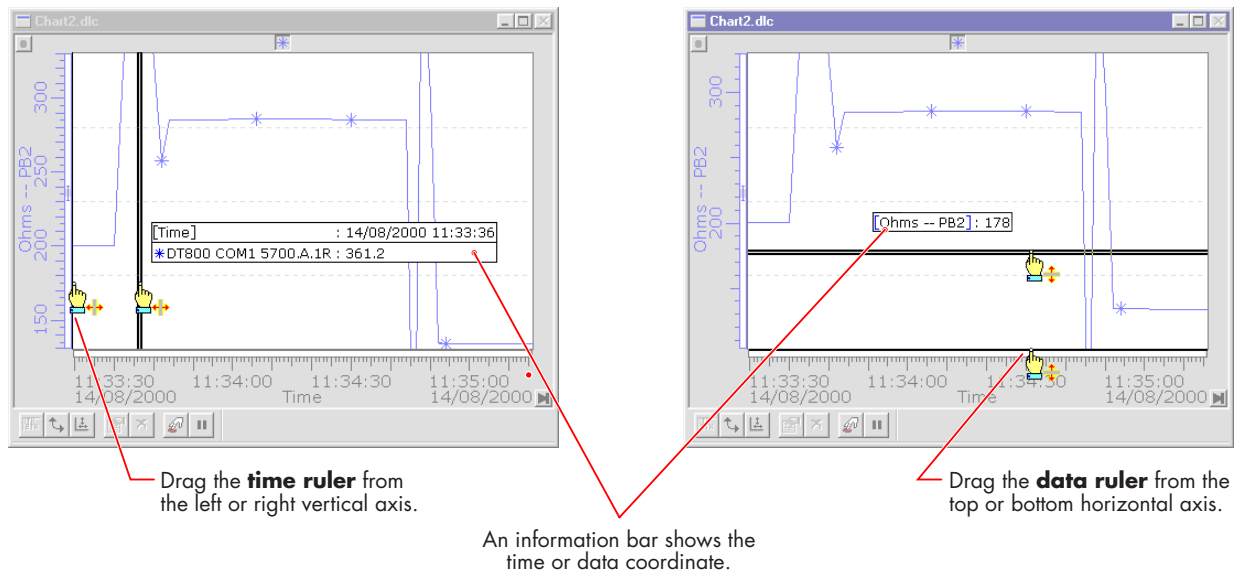

FIGURE 47 Chart window rulers for displaying precise time and data coordinates
Time (vertical) and data (horizontal) rulers allow you to read precise coordinates from the trends (Figure 47).
- j) Drag the time and data rulers into the trend area as shown in Figure 47.